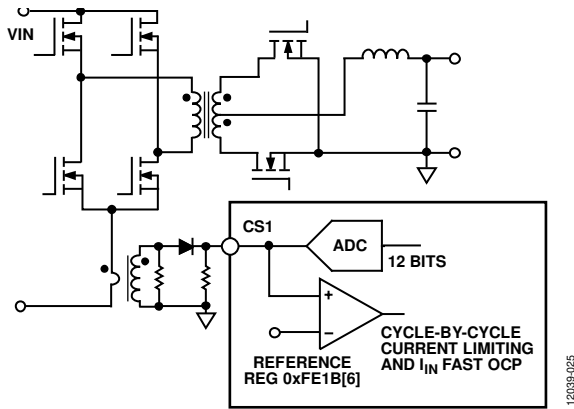

Figure 23. Current Sense 1 (CS1) Operation
Current Sense 1 (CS1) is typically used for the monitoring and protection of the primary side current, which is commonly sensed using a current transformer (CT). The input signal at the CS1 pin is fed into an ADC for current monitoring. The range of the ADC is 0 V to 1.60 V. The input signal is also fed into an analog comparator for cycle-by-cycle current limiting and  $I_{IN}$  overcurrent fast protection, with a reference of 0.25 V or 1.2 V set by Register 0xFE1B[6]. The typical configuration for the CS1 current sense is shown in Figure 23.